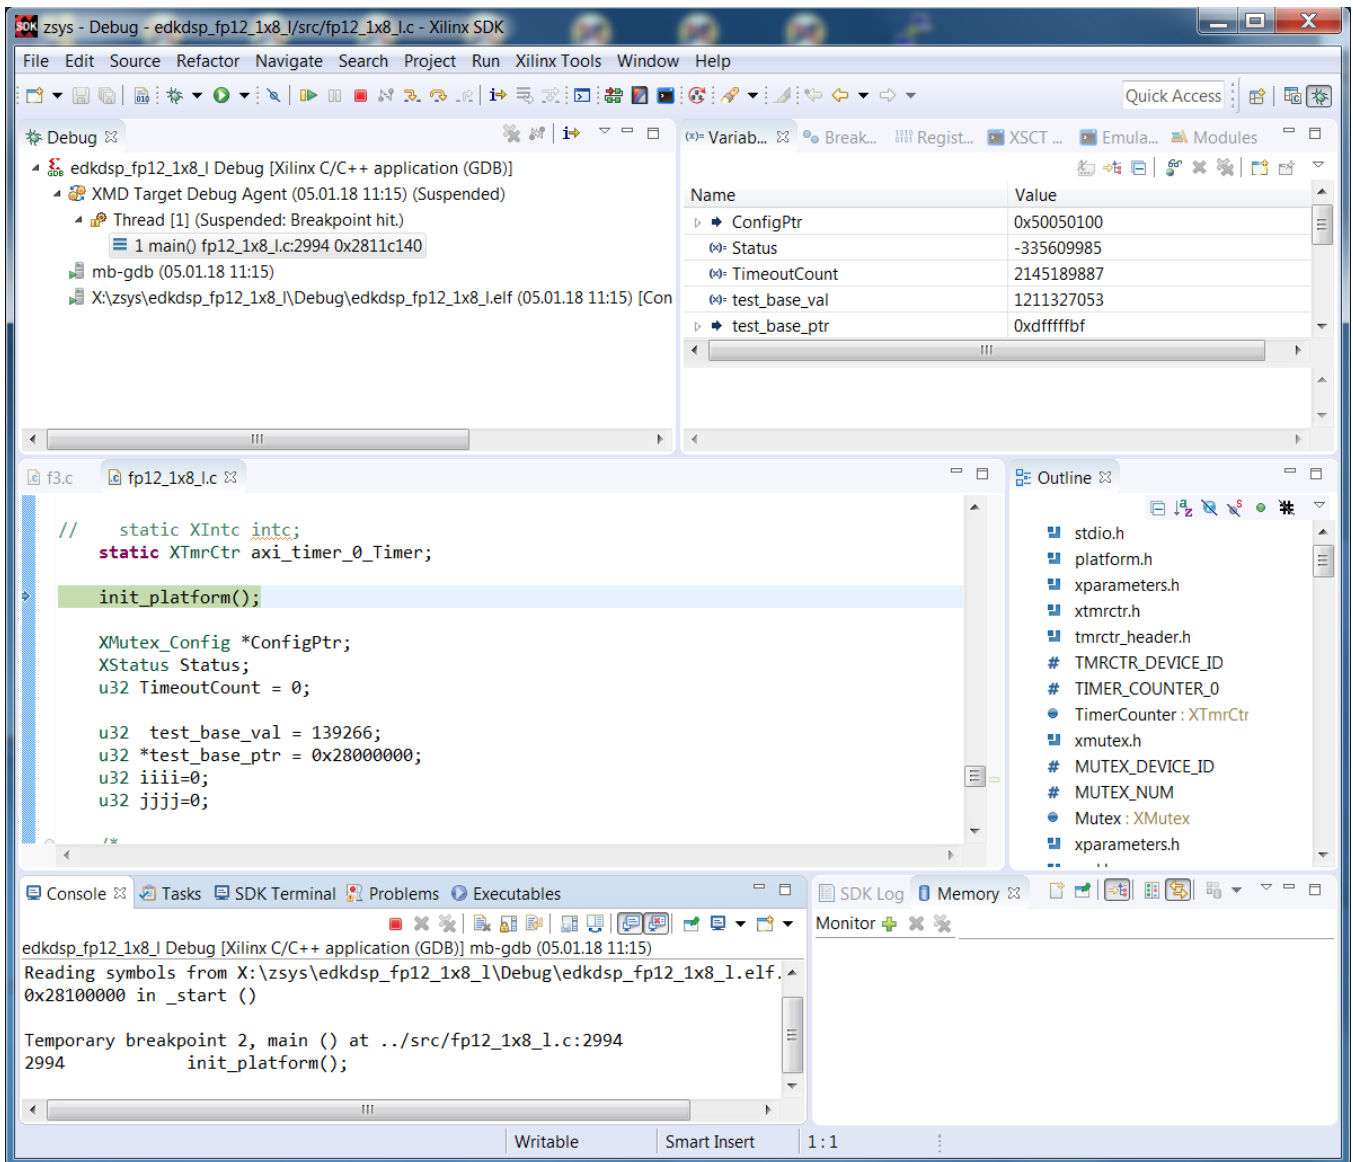

Figure 26: Select free run of MicroBlaze project edkdsp_fp12_1x8_1.
- In the SDK debugger, step through the MicroBlaze source code, inspect the content of variables, set breakpoints etc. See Figure 26.
- In the SDK debugger, select free run of the MicroBlaze code. See Figure 26.